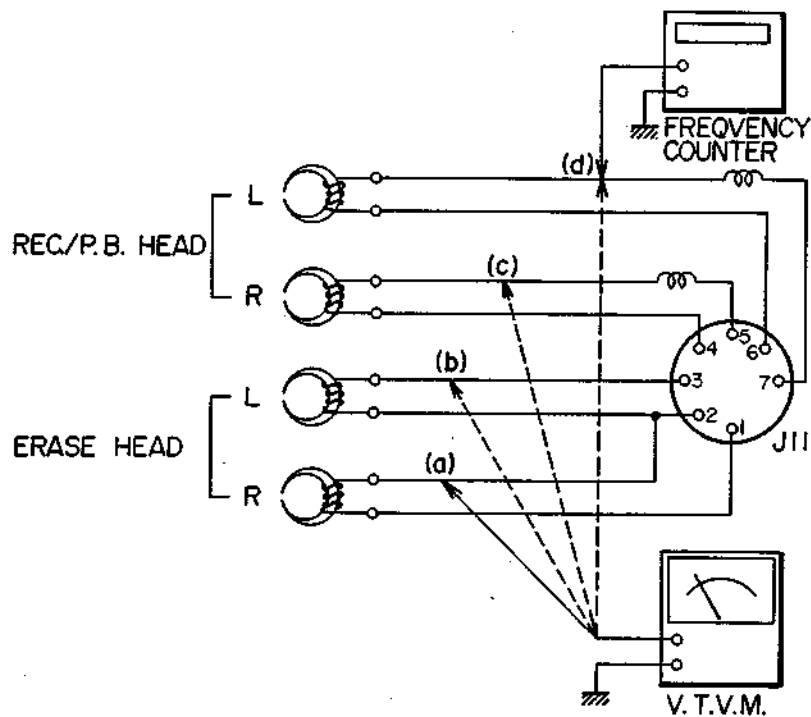

Fig. 12
- b. Connect a frequency counter to point (d) in Fig. 12 of the recording head and read the frequency indication.
### 2. RECORDING BIAS VOLTAGE (See Fig. 12)
### 3. ERASE BIAS VOLTAGE (See Fig. 12)